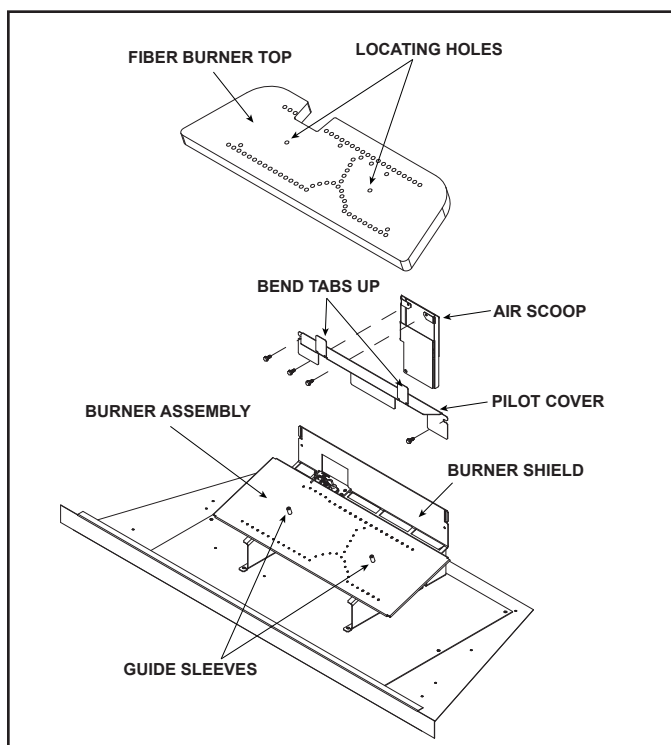

Figure 14.1
1. Bend the two tabs upward as shown in Figure 14.1.